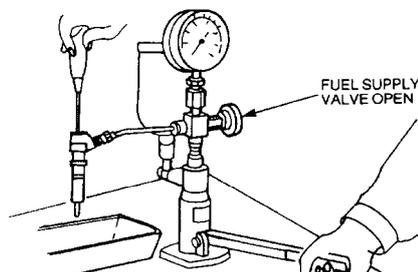

Figure 142 Starting Pressure Adjustment
- Open the fuel supply to the gauge and operate the handle to build up pressure, but do not allow the injector to spray. Observe the starting pressure reading on the test rig gauge while holding the pressure with the handle as the injector sprays. The injection starting pressure must be 18 140 kPa (2 630 psi). If not, turn the adjuster with a screwdriver to increase or decrease the starting pressure as required (Figure 142).